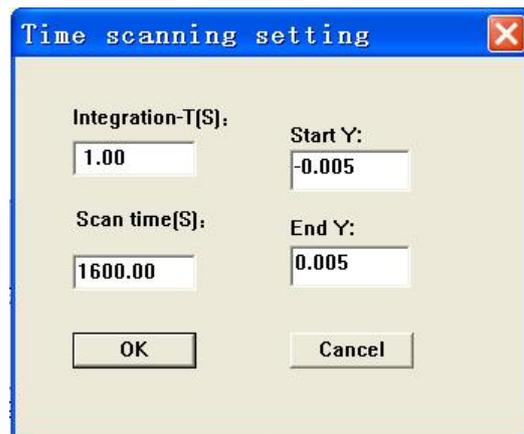

Figure 9-16a
6. For example, to read every 10 seconds for 30 minutes, enter 10 in the "Integration time" field and enter 1800 in the "Scanning time" field. The X coordinates should be determined based on actual needs. For example, enter -0.005 in the "Start Y value" field, and 0.005 in the "End Y value" field. Press "OK" for confirmation and closing the dialog as shown in Figure 9-16a.